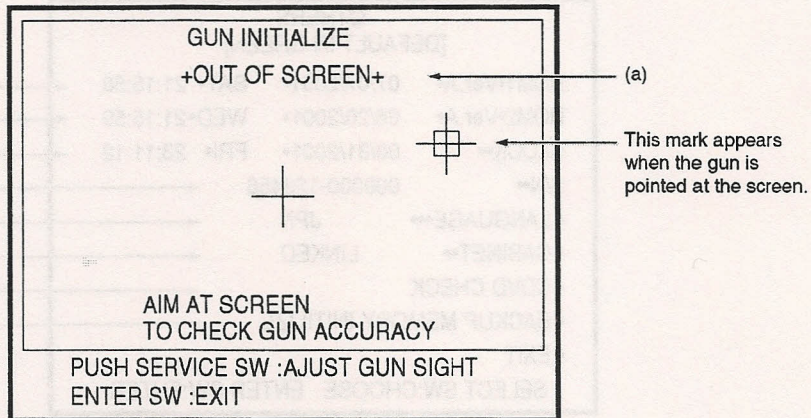
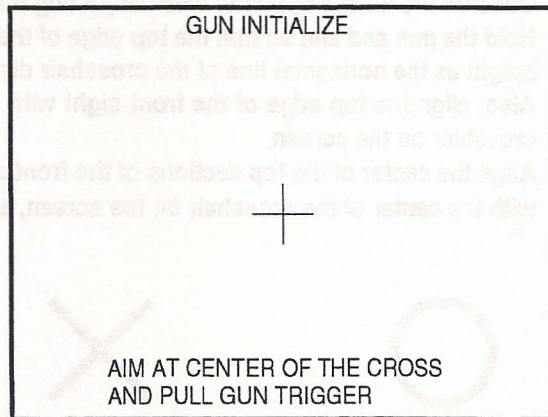

Figure 1 GUN INITIALIZE screen 1
Figure 2 GUN INITIALIZE screen 2
The GUN INITIALIZE screen (Figure 1) appears.
- 2 The screen shown in Figure 1 is used to adjust the gun sight.
- 4 When the Service switch (or pedal) is pressed while the screen in Figure 1 is shown, the display changes to the screen shown in Figure 2 for the gun sight adjustment. The gun sight adjustment is performed by shooting at the center of the screen.
- 5** On the screen shown in Figure 2, aim and shoot at the center of the crosshair displayed in the middle of the screen.
After the gun is shot, the display returns to the screen shown in Figure 1.
- On the screen shown in Figure 1, make sure that aiming is accurate from edge to edge of the screen frame.
If the gun sight is not accurate or "- OUT OF SCREEN -" appears frequently, press the Service switch (or pedal) to display the screen shown in Figure 2, and repeat the adjustment procedure.